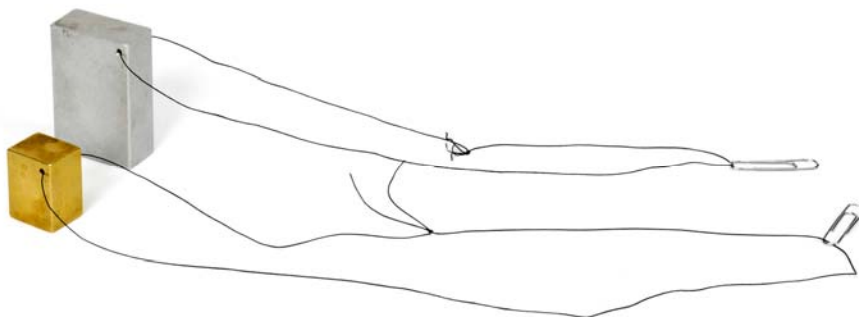

Figure 2: Metal Samples
3. Run a small piece of thread (~50 cm) through the hole in each metal sample and tie the ends of the string to create a loop similar to Figure 2. Attaching a paper clip to the loop will create a small handle to help when lifting the samples.